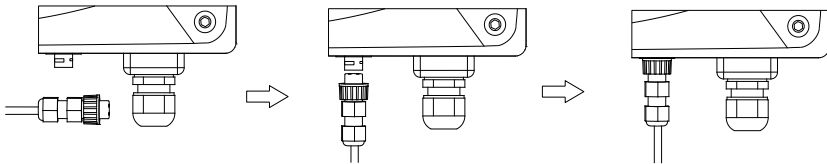

Figure 6.4 Detailed connection
- (1) Weld communication cables to the RS485 terminals of the inverter as figure 6.4 shows; Ensure the cable corresponds to the pin as table 6-1 shows and the welding is tight enough.